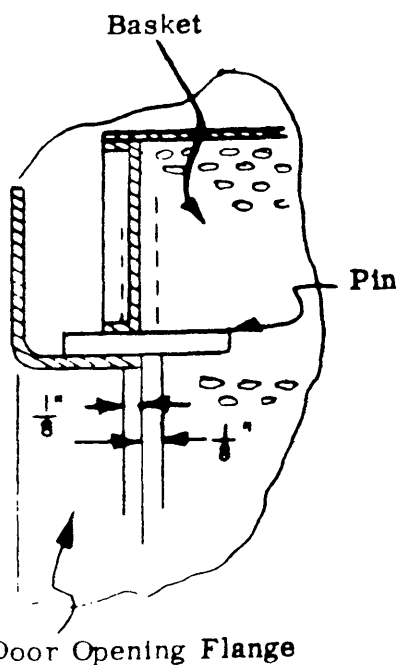
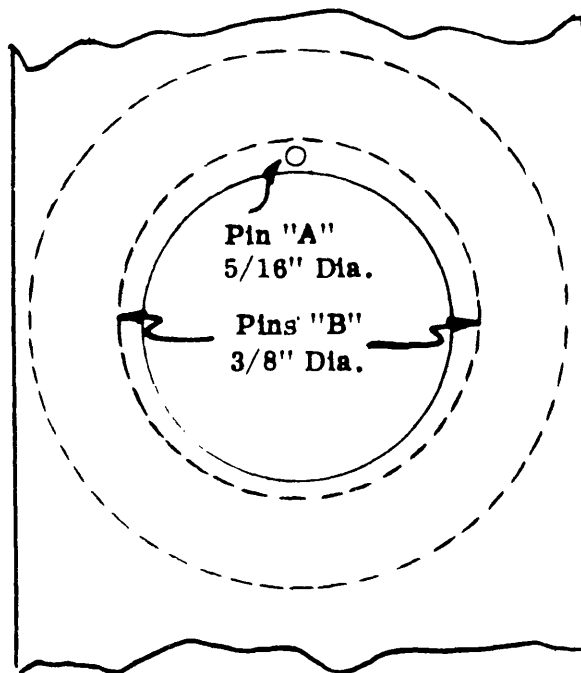

FIGURE 1
FIGURE 2
2. PLACE THE "A" AND "B" PINS INSIDE THE DRYING COMPARTMENT BETWEEN THE RIM OF THE BASKET OPENING AND THE RIM OF THE DOOR OPENING IN THE POSITIONS SHOWN IN FIGURE 1 AND FIGURE 2.
5. CHECK THE SPACE BETWEEN BASKET AND DOOR OPENING AT "B" PIN POSITION (FIG. 2). IF THE GAP IS NOT APPROXIMATELY THE SAME ON BOTH SIDES, REPEAT SAME STEPS OVER.
2. Lay air switch assembly on flat surface and stand up on small end of switch mounting bracket. Adjust air blade by bending at "A" (Fig. 1) so that air blade lays flat and surface "G" is parallel to the flat surface.
3. Place 3/16" x 5/8" spacer bar "B" (Fig. 2) under air blade in position shown; hold switch mounting bracket firmly and adjust switch actuator "C" with needle nose pliers at "D" by twisting actuator right or left whichever is needed so that switch closes when end of air blade engages bar "B".